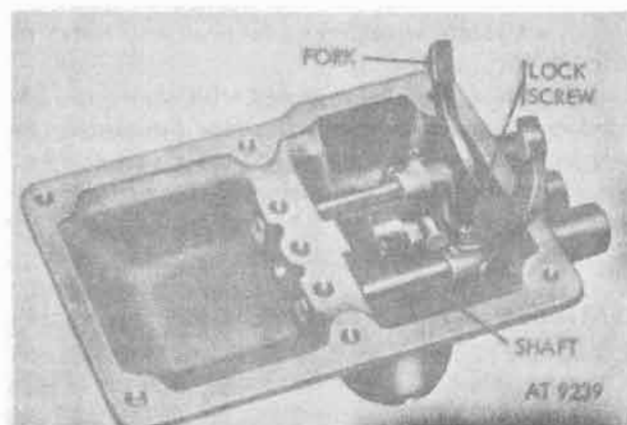

Figure 8-106. First and second speed fork lock screw.
h. Position fork on first- and second-speed shifter shaft and install lock screw (fig. 8-106).